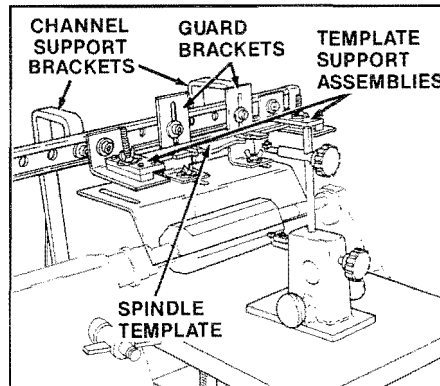

Figure 18. Spindle Setup.
**1. Set up the duplicator** for spindle turning according to the following procedures. (See Figure 18.)